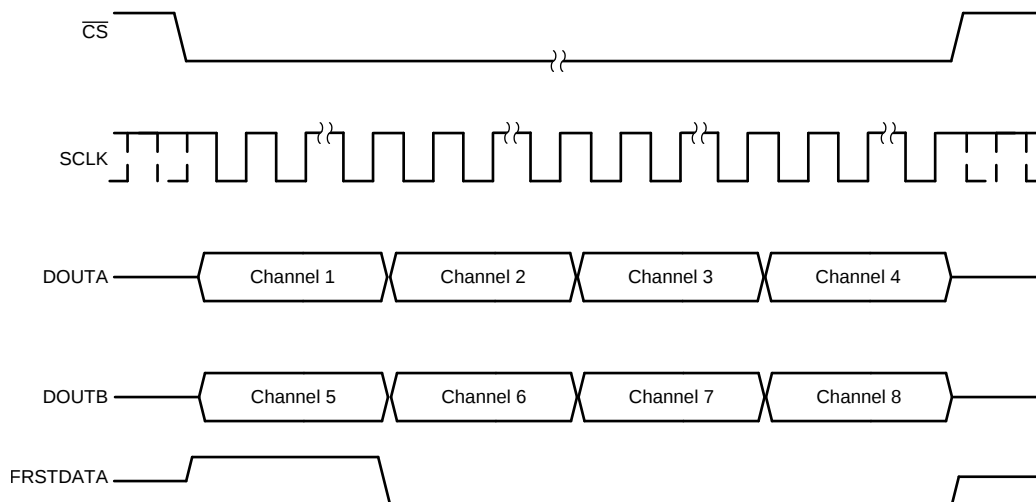

图 70. Data Read Back in the Serial Interface Using Both DOUTA and DOUTB Timing Diagram
- In order to minimize the time for the data read operation in serial mode, both DOUTA and DOUTB can be used to read data out of the device. In this case, the conversion results from the first set of channels (channels 1-4) appear on DOUTA and the conversion results from the second set of channels (channels 5-8) appear first on DOUTB. To read the data for all channels, provide a total of $18 \times 4 = 72$ SCLK cycles. This entire data frame can be created within a single CS signal. 图 70 shows this operation.